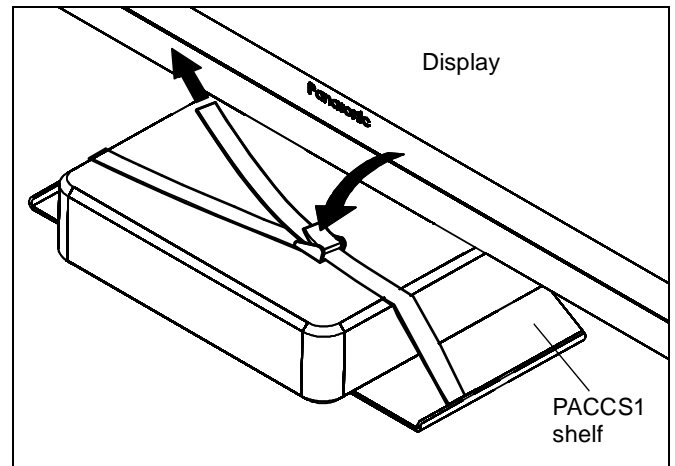

Figure 9
2. **OPTIONAL:** Thread optional strap (PAC103) through slots in shelf. (See Figure 9)